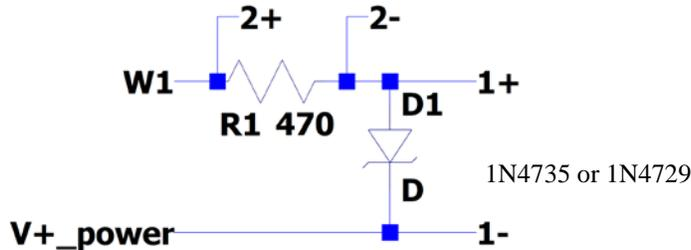

Figure D-4.
- **D.2** Assemble the circuit shown in Figure D-4 on your protoboard. The Zener diode looks like the regular diode, make sure that you have the Zener.